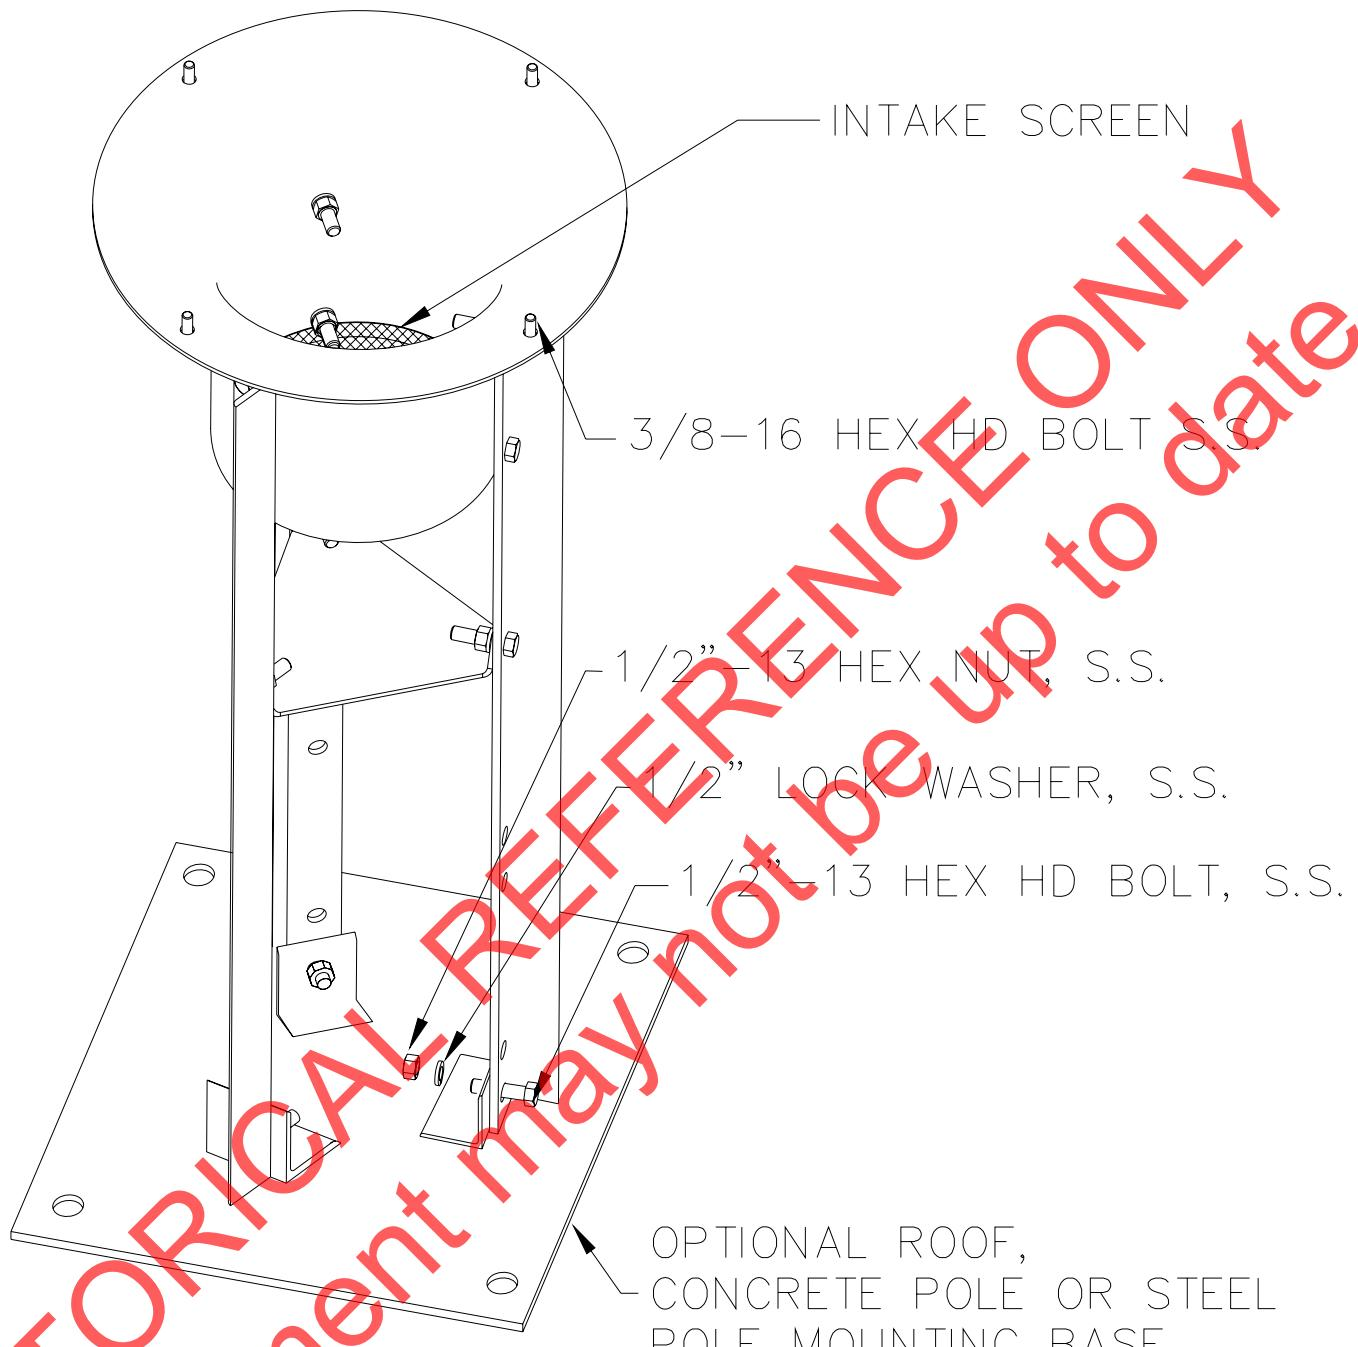
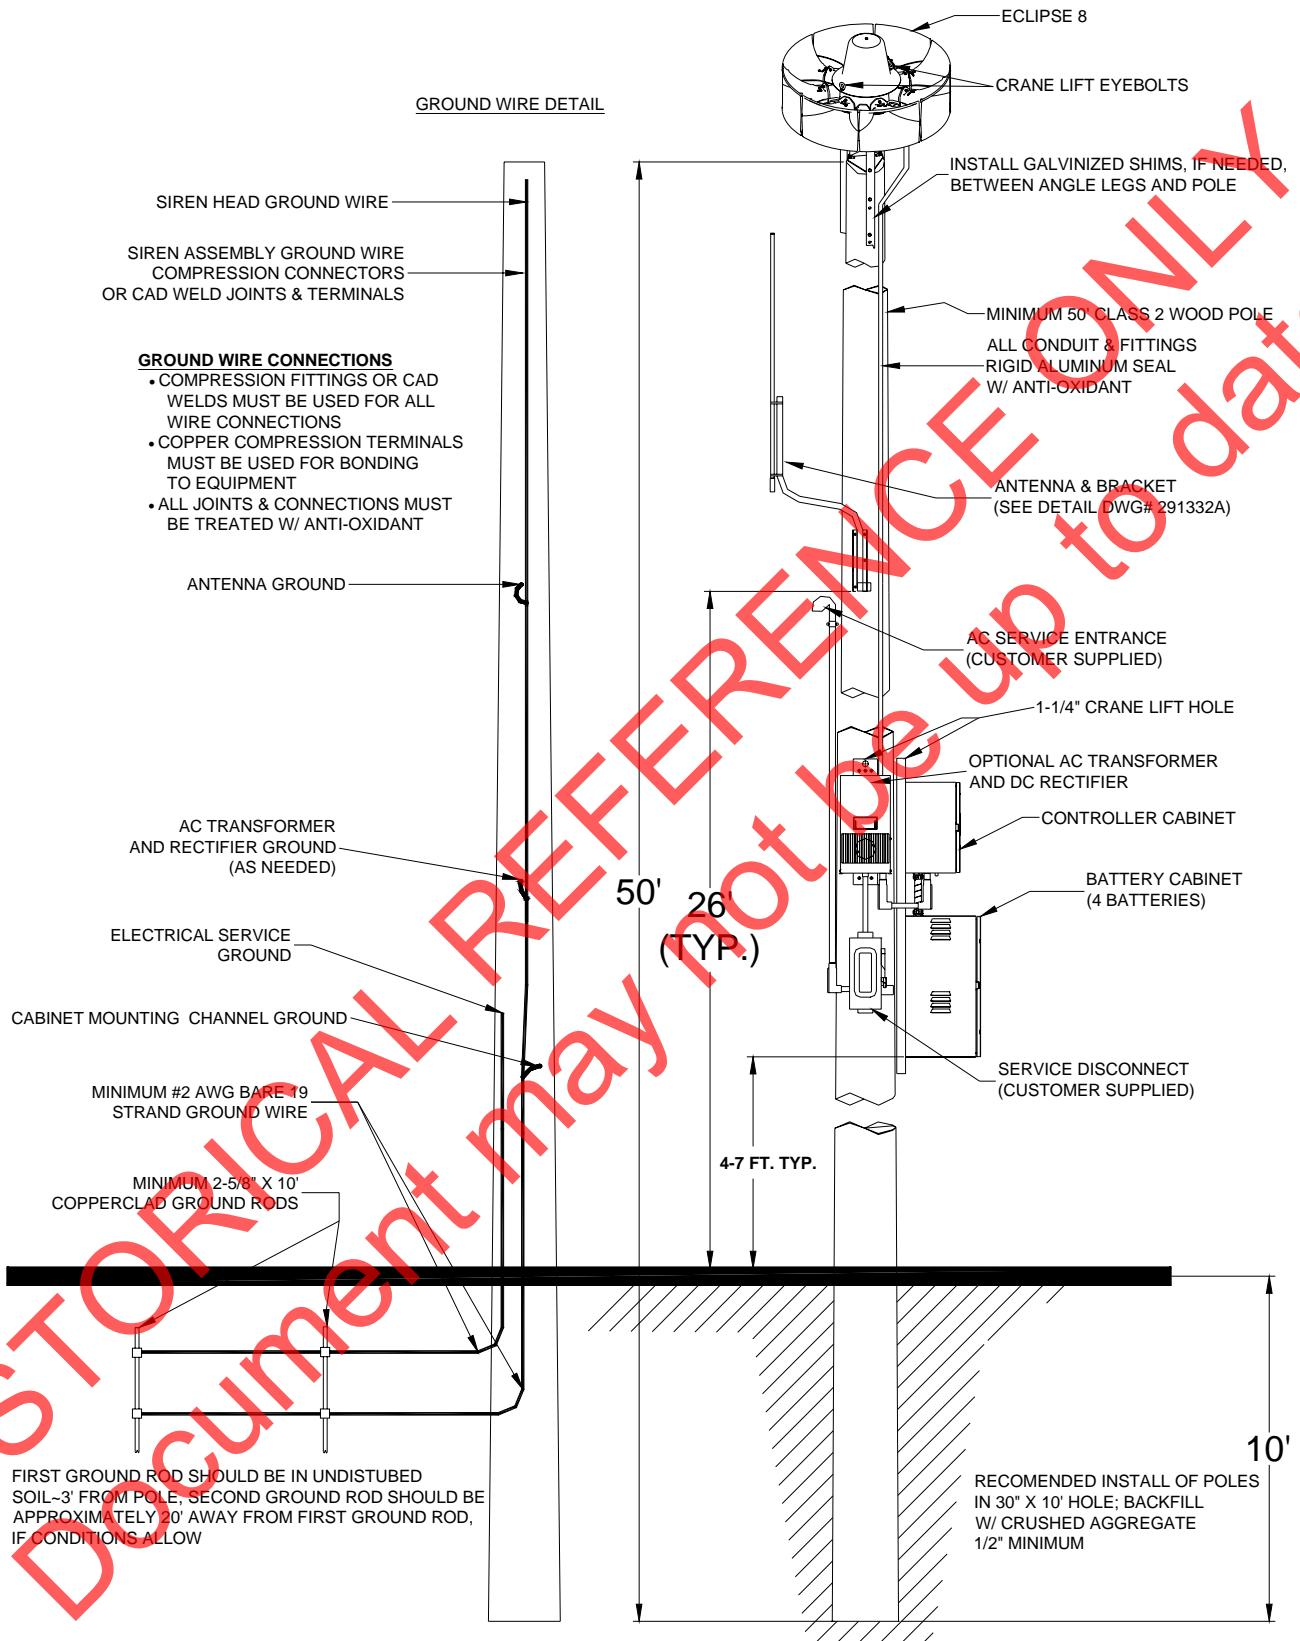

Figure 3-1. Siren Leg Assembly.
Figure 3-2. Typical Pole-mounted Installation
| Figure 3-1. Siren Leg Assembly .....                         | 5    |
| Figure 3-2. Typical Pole-mounted Installation .....          | 6    |
A typical siren pole-mounted installation is shown in figure 3-2. The siren is mounted on a Class 2 utility pole at least 40 ft. above the ground. It is attached to the pole by means of legs, as shown in figure 3-1.
4. Install the siren grounding as shown in figure 3-2.